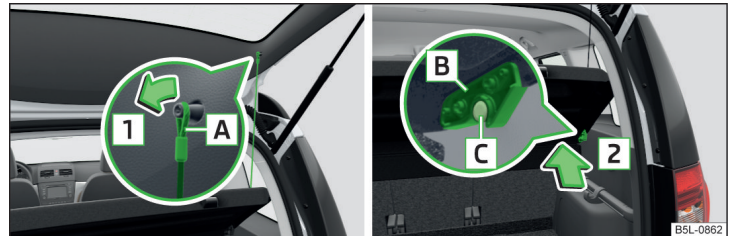

Fig. 113 Remove the luggage compartment cover
If the support straps **A** » Fig. 113 are attached to the boot lid, then opening the lid will raise the boot lid cover (hereafter referred to as cover).
- On both sides of the boot lid, unhook the straps **A** in the direction of arrow **1** » Fig. 113.
- Position the mounts on the cover **B** onto the side trim panel via pins **C** » Fig. 113.